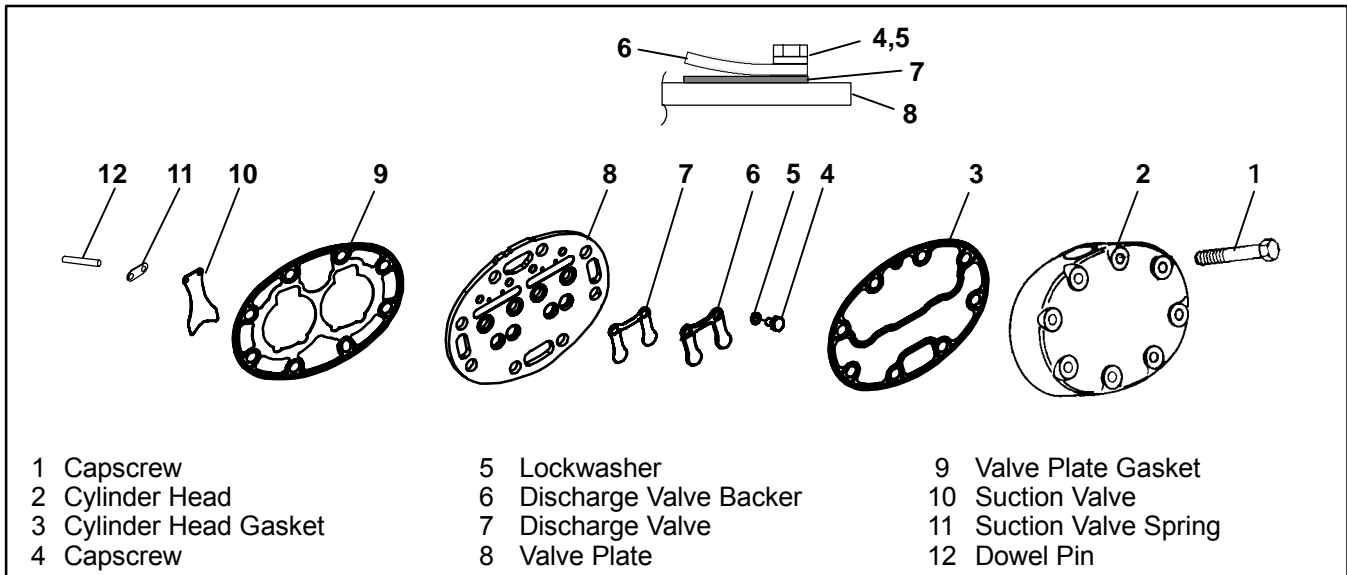

Figure 3-2. Cylinder Head & Valve Plate
- Loosen cylinder head capscrews. If the head is stuck, tap it lightly with a wooden or lead mallet to free it. Be careful not to drop the head or damage the gasket sealing surface. Remove cylinder head capscrews and gasket. (See Figure 3-2)